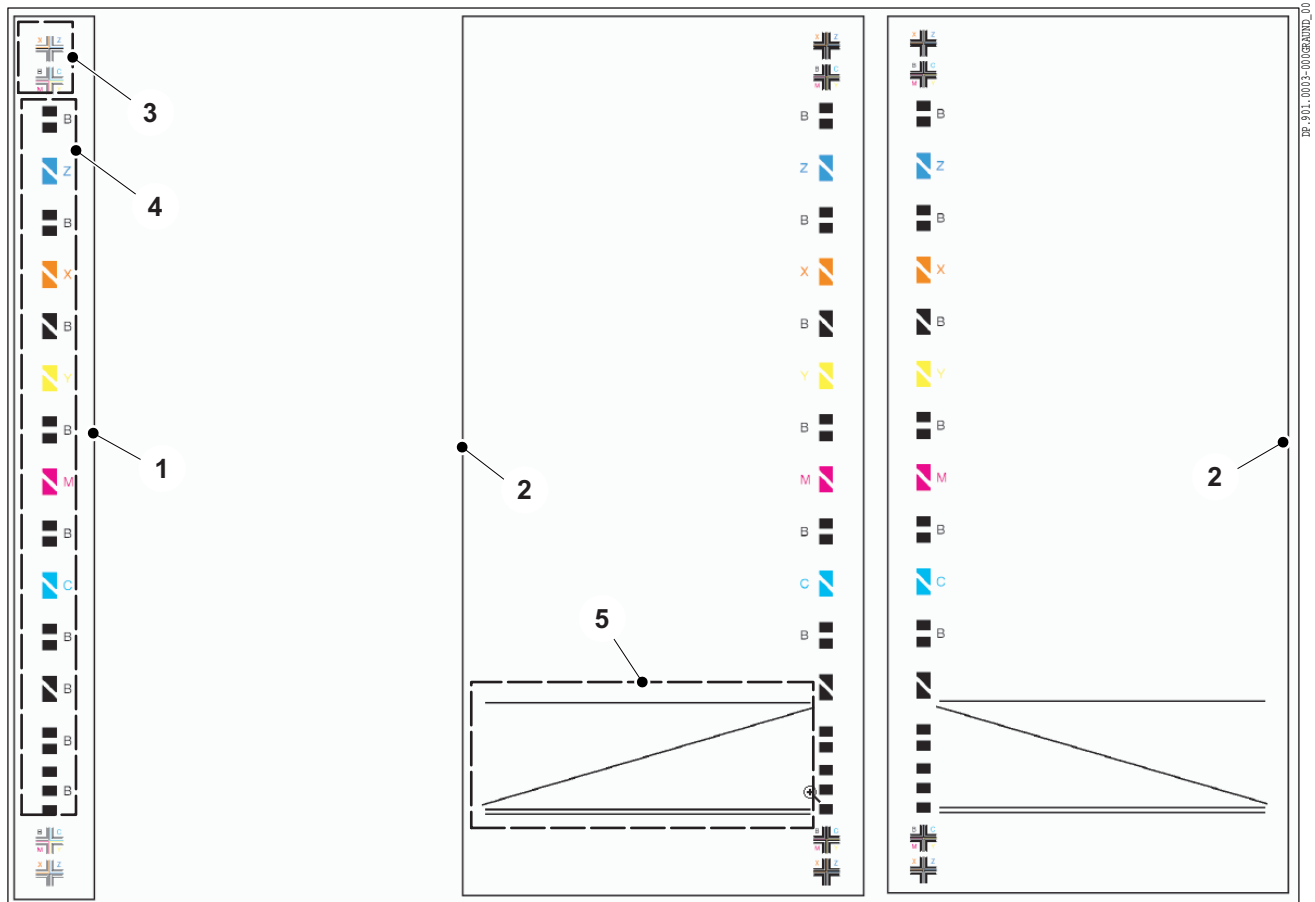

Fig. 6 Control marks
- This control mark with no search mark (Fig. 6/1) can be positioned on both the left and right-hand edge of the sheet. This control mark consists of the crosshairs for visual monitoring (Fig. 6/3) and the measurement fields area for Prinect Auto Register (Fig. 6/4).
The control marks AR\_L and AR\_R, Fig. 6/2 consist of crosshairs, measurement fields and the additional search mark (Fig. 6/5), which enable the exact position of the control mark to be found quickly without user input.